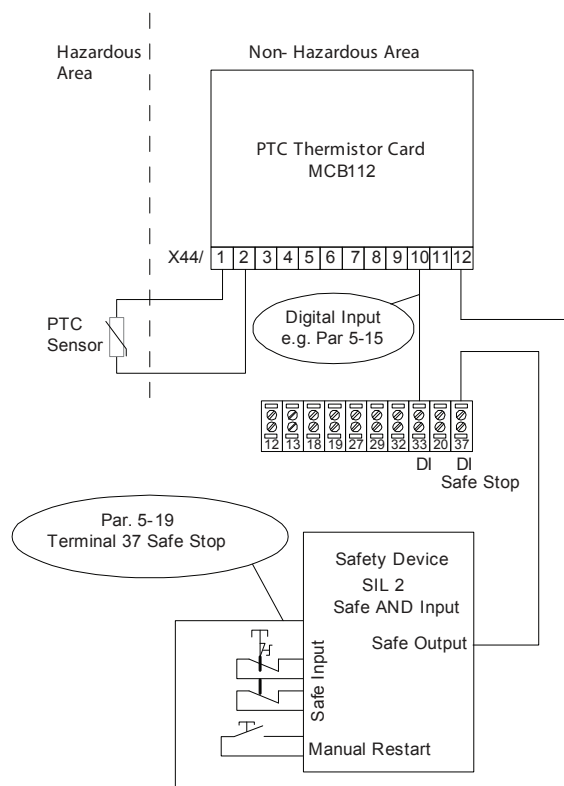

Figure 3.3 Combination of an STO Application and an MCB 112 Application
- Short circuit protect the connection from the output of the safety device with safe AND-logic to the STO terminal 37, see *Figure 3.3*.
Figure 3.3 shows a Restart input for the external safety device. This means that in this installation, 5-19 Terminal 37 Digital Input can be set to value [7] PTC 1 & Relay W or [8] PTC 1 & Relay A/W. Refer to VLT[®] PTC Thermistor Card MCB 112 Instruction Manual for further details.